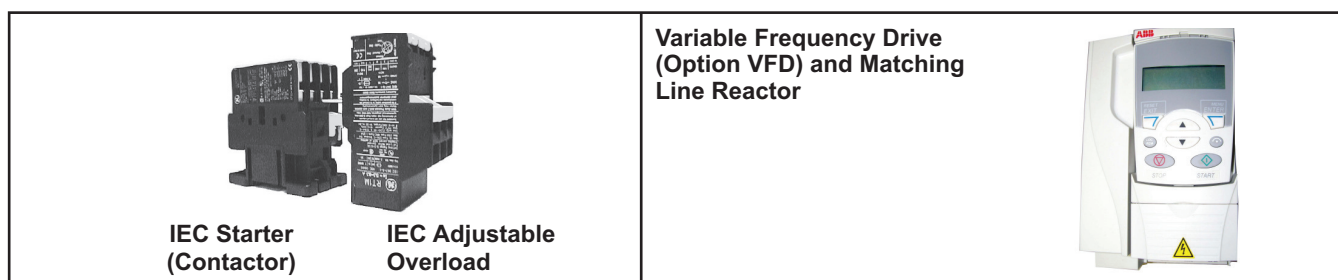

Figure 19. IEC Starter and Overload and Variable Frequency Drive
- Variable frequency drives (option VFD) and their corresponding line reactors are shown in Figure 19 and listed in Table 26.
- For motors with internal overloads (refer to item 3 in Table 11), the standard motor contactor is PN 216386.
- Units with two-speed motors manufactured *after* AUG 1991, are equipped with IEC two-speed starters (contactors). When ordering a replacement IEC starter (refer to Table 30) or overload, check the manufacturer's number on both parts. If the number is different than that listed in Table 27, Table 28, and Table 29, both components must be replaced. The IEC starter and overload (see Figure 19) are mounted on a rail (PN 111387).